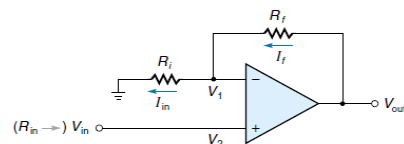

Figure 7.7 The non-inverting amplifier circuit.
- The circuit for the **noninverting amplifier** is shown in Figure 7.7